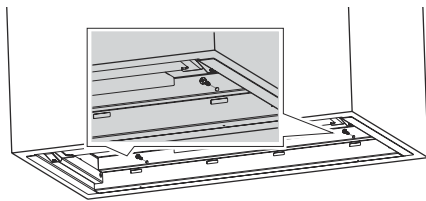

Fig. 14
5. → Mount the hood through the back side with 2 pcs. 3.9x16 screws. (Fig. 14).